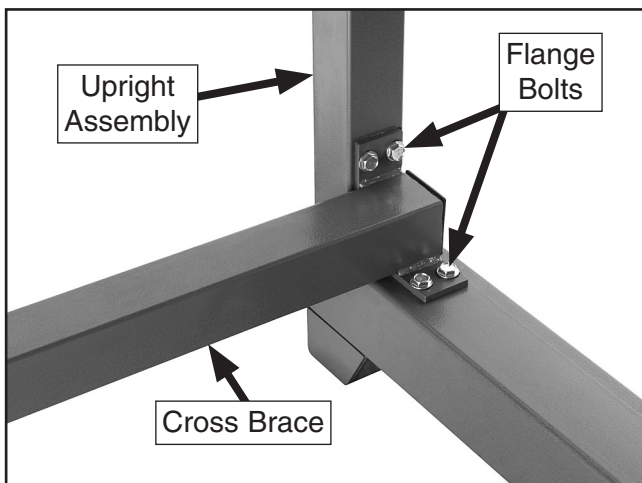

Figure 12. Cross brace attachment.
1. Connect one of the braces to the lower portion of one of the upright assemblies with (4) $\frac{5}{16}$ -18 x $\frac{1}{2}$ flange bolts, as shown in **Figure 12**. Have an assistant stabilize the upright assembly during fastening. Do not yet fully tighten the bolts.